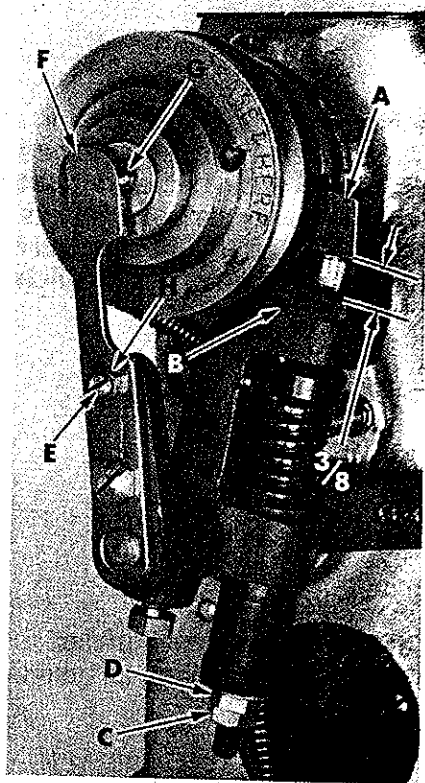

Fig. 1
This position is that which is shown in Fig. 1 with the stop motion disc and pawl against the plunger (A).
With machine in stop position, stop motion plunger (A, Fig. 1) should be set so that there is  $\frac{3}{8}$  inch between the bottom of plunger and plunger lever bracket (B).